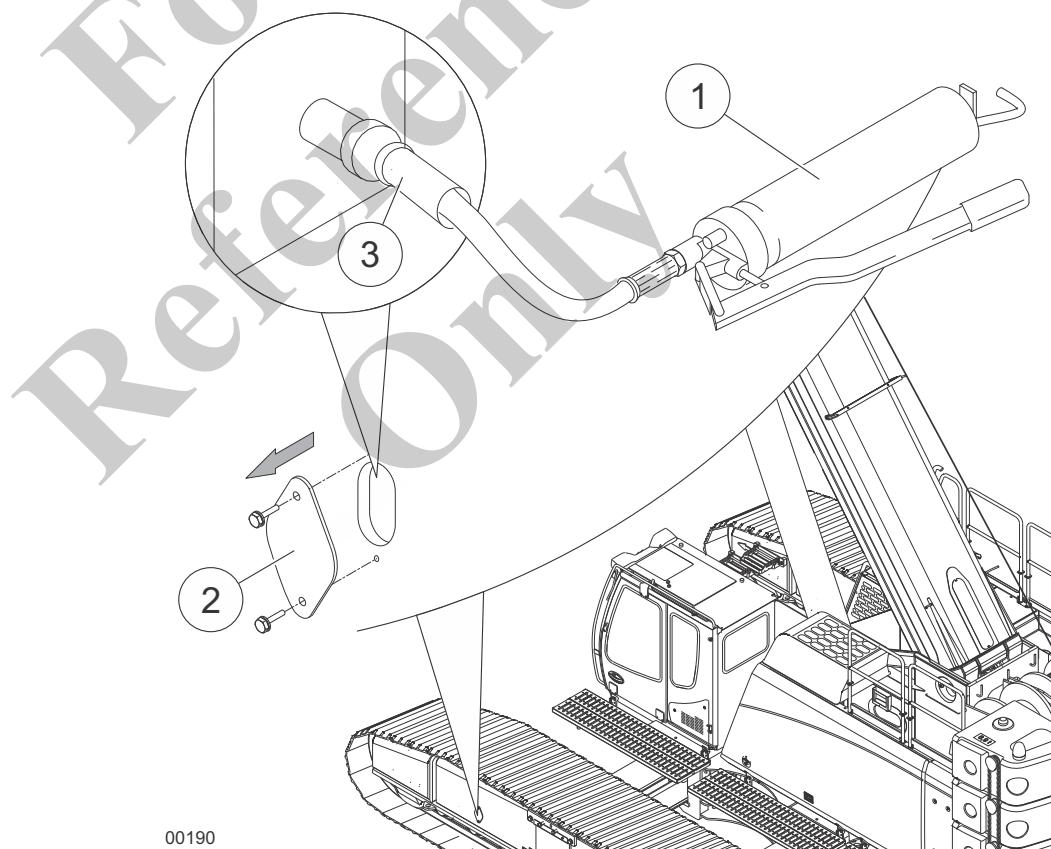

Fig. 27 Adjusting track tension
| 2 | Prepare the grease gun (1) in Fig. 27. |
| 3 | Remove screws and covers (2) in Fig. 27. |
| 4 | Feed connection hose (3) in Fig. 27 into the lubricating valve. |